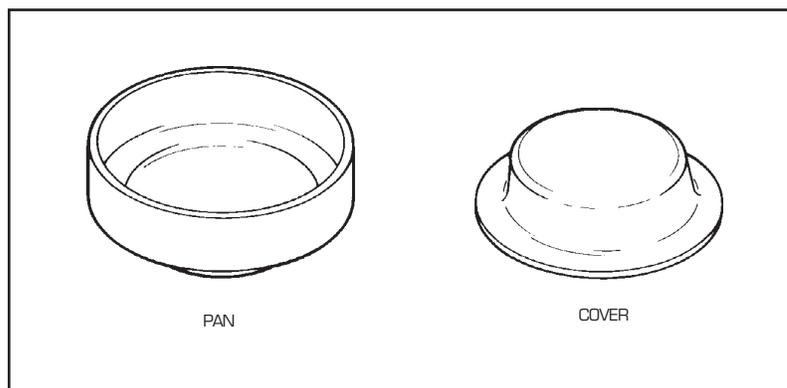

Figure 5.12
1. Place the hermetic pan and cover (see Figure 5.12) in a milligram balance (measuring accuracy of the balance must be ± 0.0001 gram) and record the weight.